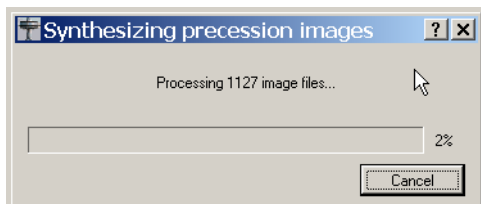

Figure 8.25 - The progress bar
5. Use the simulated patterns to check space group symmetry (see Figure 8.25, Figure 8.26 and Figure 8.27) and to find signs of twinning (see Figure 8.28).